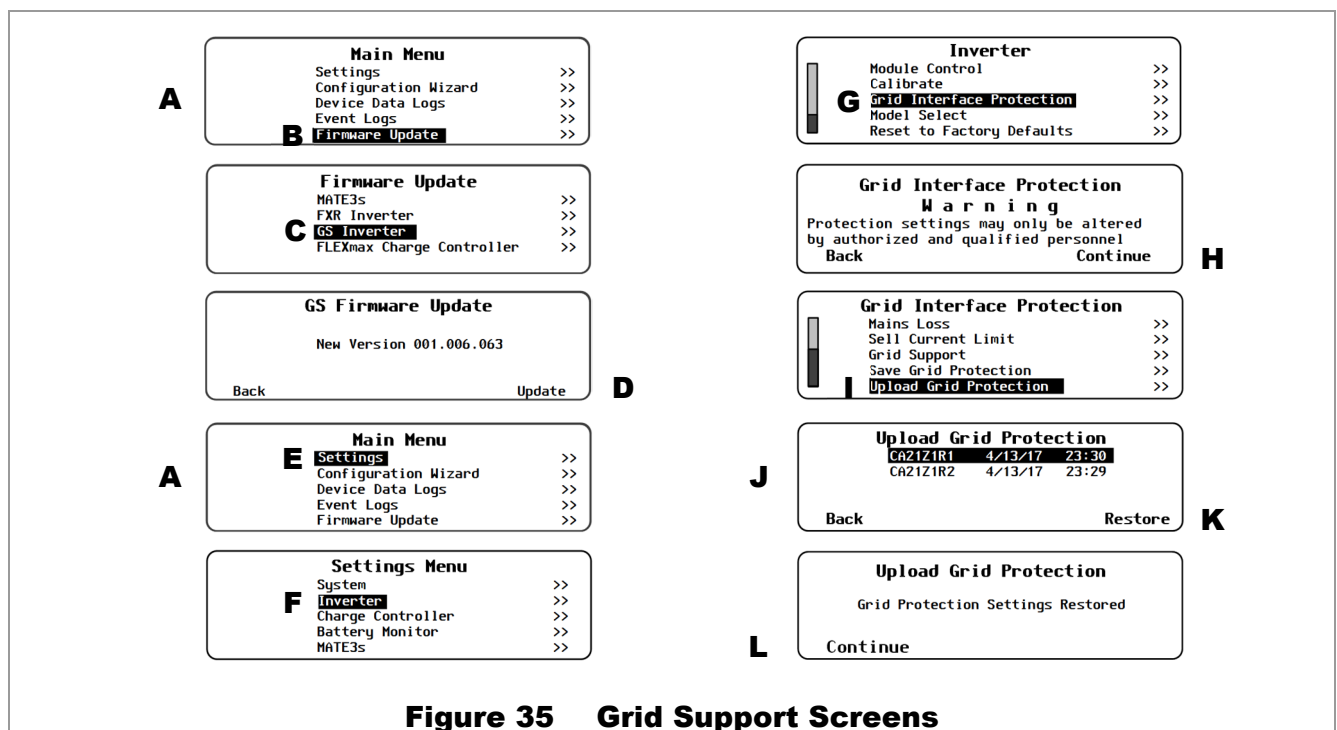

Figure 35 Grid Support Screens
2. From the MATE3s **Main Menu** (**A** in Figure 35), choose **Firmware Update** (**B**) and then **GS Inverter** (**C**). The display will show that new firmware is present. (The revision should be 001.006.063 or higher.) Press **Update** (**D**) to download this firmware into the Radian inverter. This can take up to ten minutes per inverter. In certain systems it may take up to 20 minutes.